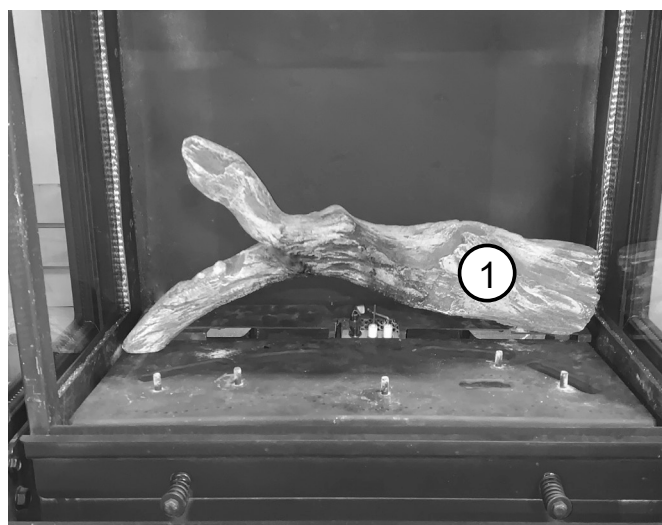

Figure 11.1. Set the #1 Rear Log on the rear pins, one on the Burner and one on the Burner Skirt.
- 1. Rear Log:** Engage the holes in the underside of Rear Log #1 with two pins, one on the burner base and one on the burner skirt. Fig 11.1